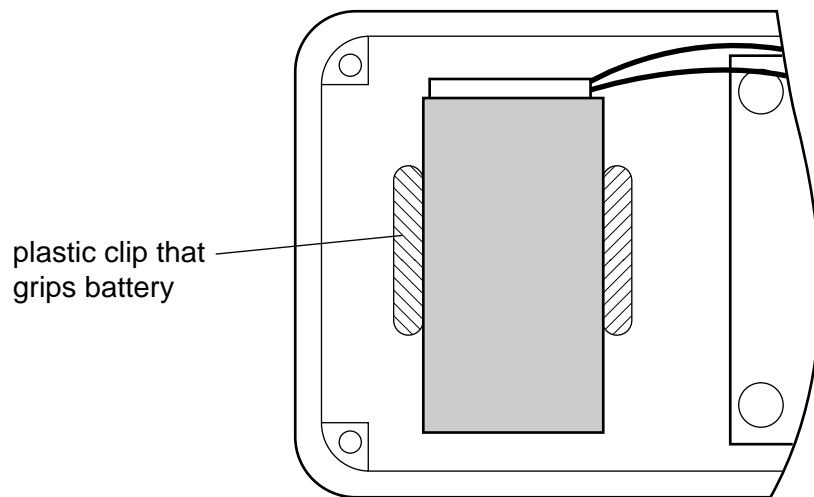

Fig. 4
- (ii) Draw on Fig. 4. and add notes to show a method of holding the battery in place inside the plastic case.